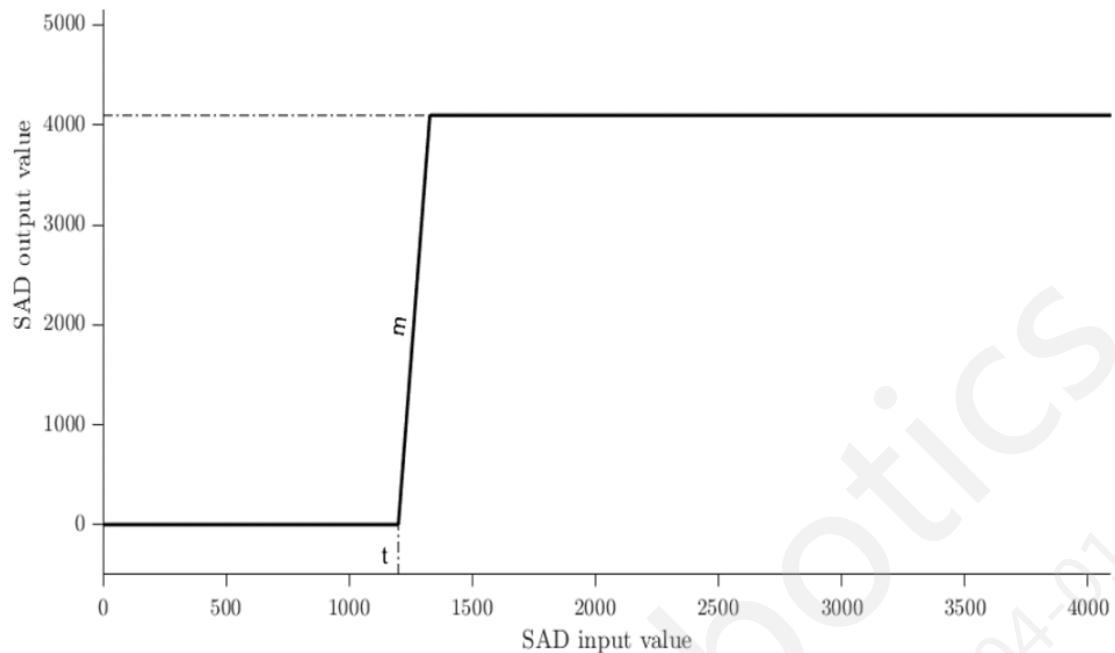

Figure 3.16-9 SAD parameters and curve
These registers define the linear threshold function, depicted in Figure 3.16-9. The SAD input is produced by edge detection. The purpose of this threshold function is to differentiate between edges which produce purple fringing and those which do not.
10. Referring to Figure 3.16-9, adjust Sad\_thresh so that all purple fringing areas are white, but other edges (such as the ColorChecker) are as thin as possible. Figure 3.16-10 shows a tuned SAD mask.